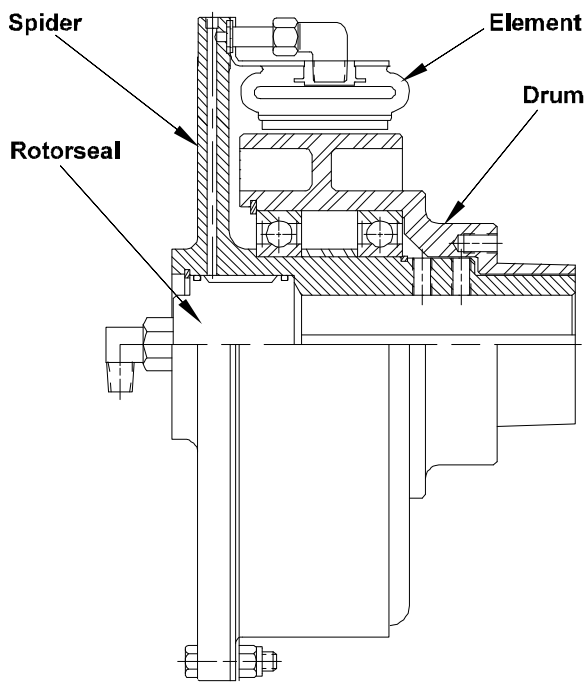

Figure 5
2.1.4 Airflex offers several economical packaged applications utilizing CB elements. Figure 5 illustrates an Airflex sheave clutch, incorporating a built in rotorseal and sealed ball bearings. A wide range of sheave sizes can be used with this type of package.